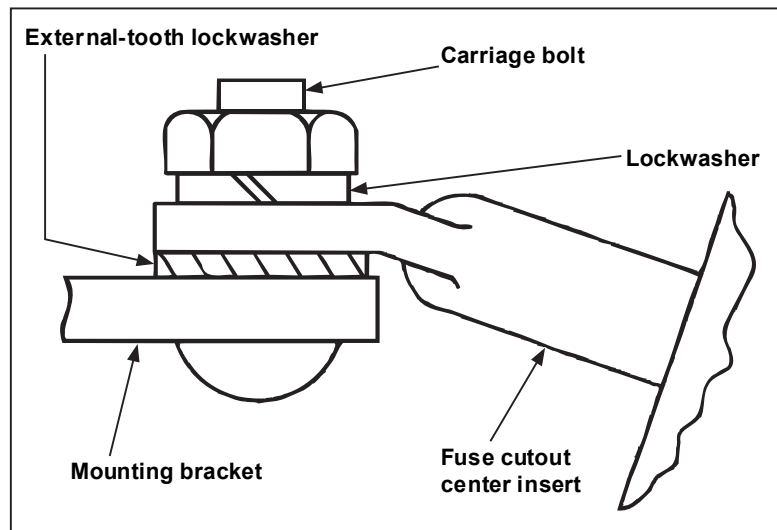

Figure 1. Detail of attachment of fuse cutout to mounting bracket.
Step 1 Attach the fuse cutout to a suitable mounting bracket as illustrated in Figure 1. NOTE: A mounting bracket, suitable for cross-arm, pole, or wall mounting, is furnished only if so specified on order by adding suffix “-B” or “-C” to catalog number of fuse cutout.
Step 2 Mount the fuse cutout on the mounting bracket, as shown in Figure 1, with the carriage bolt nut snug but loose enough for pivot adjustment. Note the placement of the external-tooth lockwasher between the fuse cutout center insert and the mounting bracket. See Figure 1.